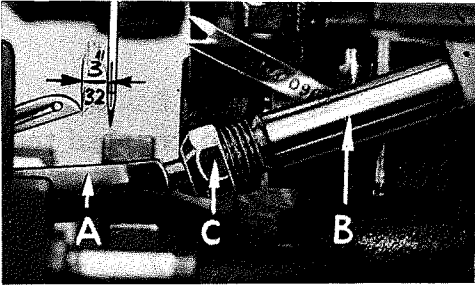

Fig. 4
At this point, insert lower looper (A, Fig. 4) into bar (B). With lower looper at left end of its stroke, set looper point  $3/32$  inch from center of needle (Fig. 4), using looper gauge No. 21225-3/32. Do not have lower looper deflecting needle. Tighten nut (C).